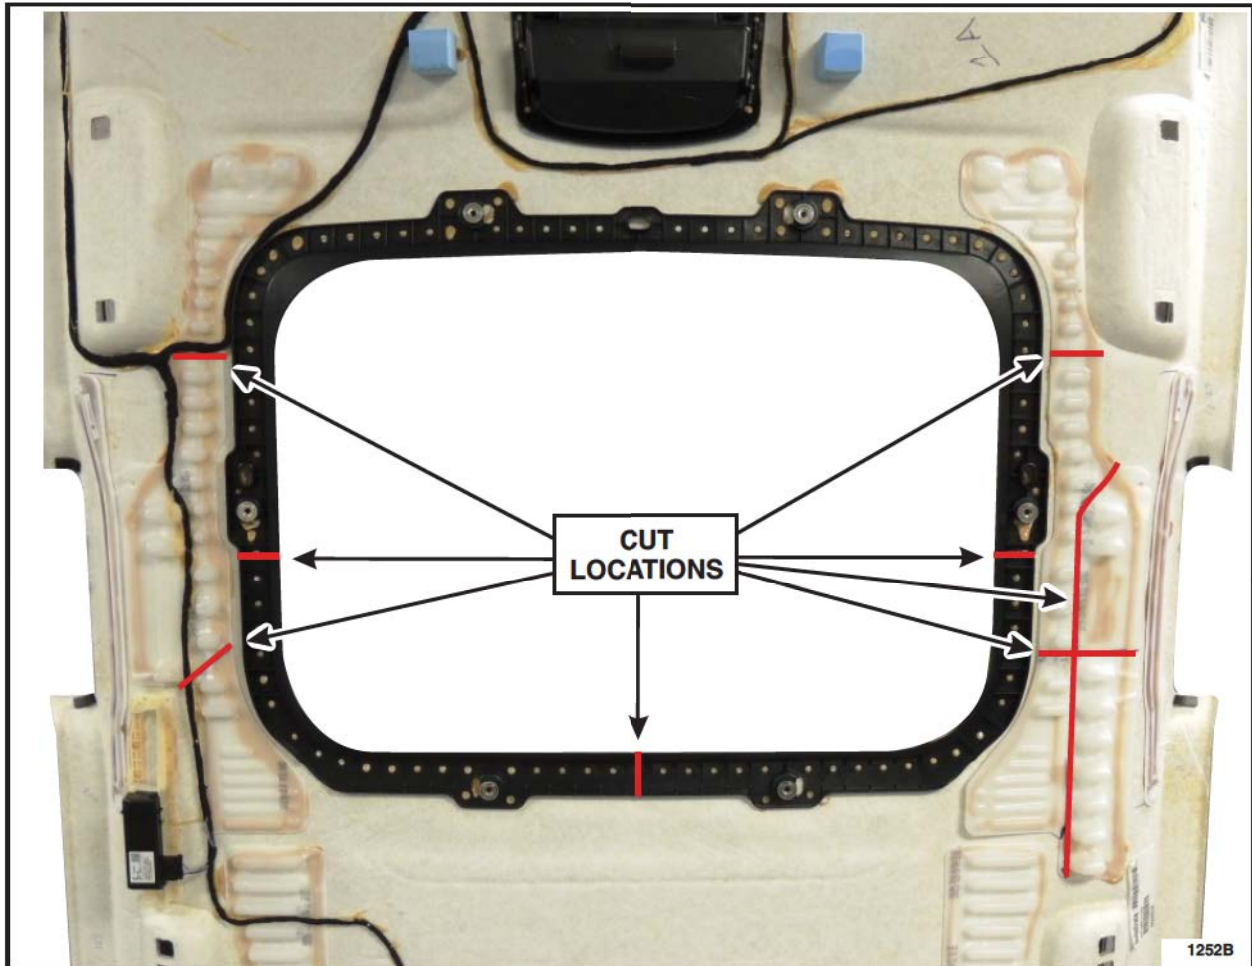

FIGURE 21
1. Mark cut locations on the headliner reinforcement material. See Figure 21.